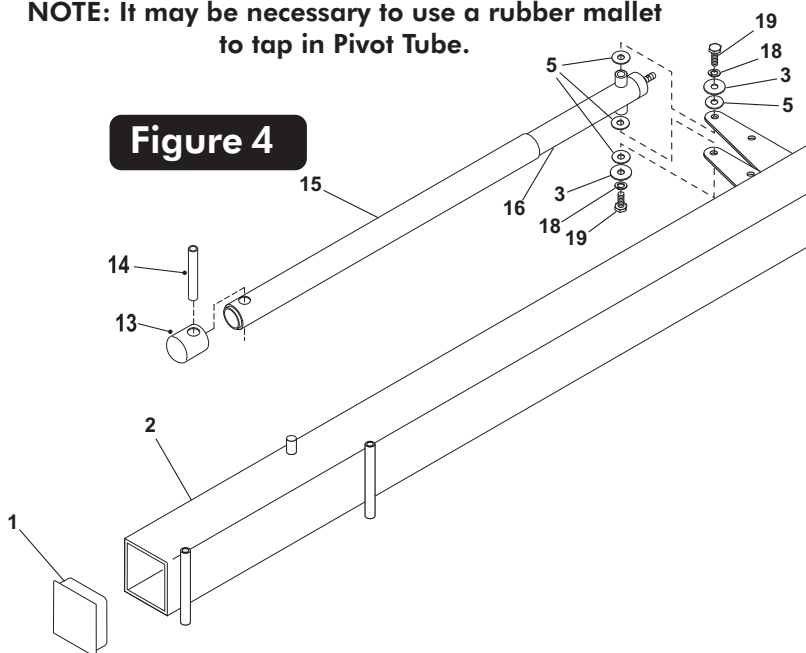

Figure 4
2. Slide Actuator Sleeve (#15) over Actuator (#16) and place Actuator Cap (#13) on top. Align holes in all 3 parts and slide Pivot Tube (#14) through holes in Actuator Cap (#13) Plastic Actuator Sleeve (#15) and Steel Actuator (#16) until equal amounts stick out through both sides of actuator. See Figure 4.
3. Lay Pole (#2) on its side on two padded saw horses. Secure Actuator (#16) to Pole (#2) using one bolt (#19), split lockwasher (#18), washer (#3) and two plastic washers (#5) to thread into each side of Actuator. See Figure 4. Tighten bolts tight.